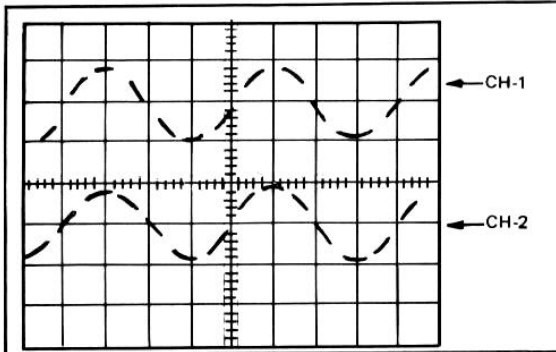

Figure 2-11.
- Press either ALT or CHOP V MODE pushbutton (21). Press ALT for relatively high-frequency displays (A TIME/DIV switch set at .2 mS or faster); press CHOP for relatively low-frequency displays (A TIME/DIV switch set at .5 mS or slower). If the CHOP pushbutton is pressed when fast sweep speeds are used, the displayed traces will appear broken (as in Figure 2-11) when signals are applied. If the ALT pushbutton is pressed when slow sweep speeds are used, the display will flicker excessively.